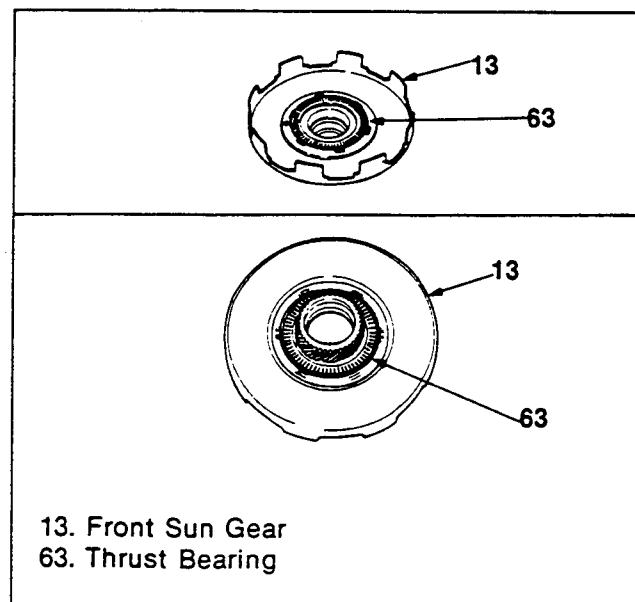

Figure 267. Clutch Pack Reassembly (3)
4. Apply Vaseline to the two thrust bearings, then install them to the front sun gear (figure 267).